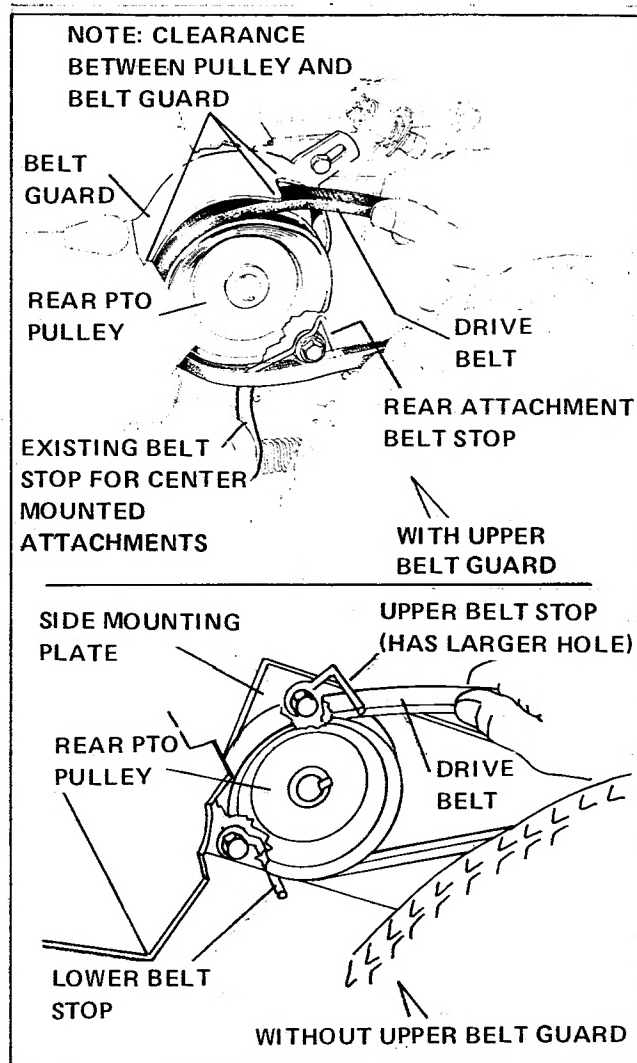

FIGURE 2.
5. On those tractors which do not have a pulley already installed on the power take off shaft, the pulley and two belt stops must be installed. On tractors with a narrow upper belt guard (or none at all) on the PTO drive shaft, remove the top mounting screw of the bevel gear case just above the drive shaft, and replace the original screw with the slightly longer 7/16" x 1-1/4" capscrew, placing lockwasher, flat washer and upper belt stop on the capscrew before installing in place of the original capscrew. (See Figure 2.)